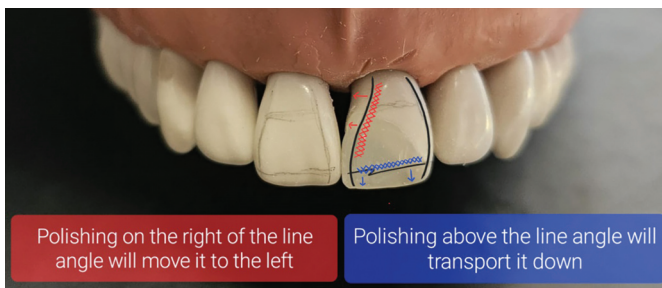

FIGURE 4: How to assess and adjust line angles.
- Using a mechanical pencil while holding the lead at 45°, outline the line angles and facial planes of both the restored tooth and the adjacent tooth to compare and correct discrepancies (Figure 4).